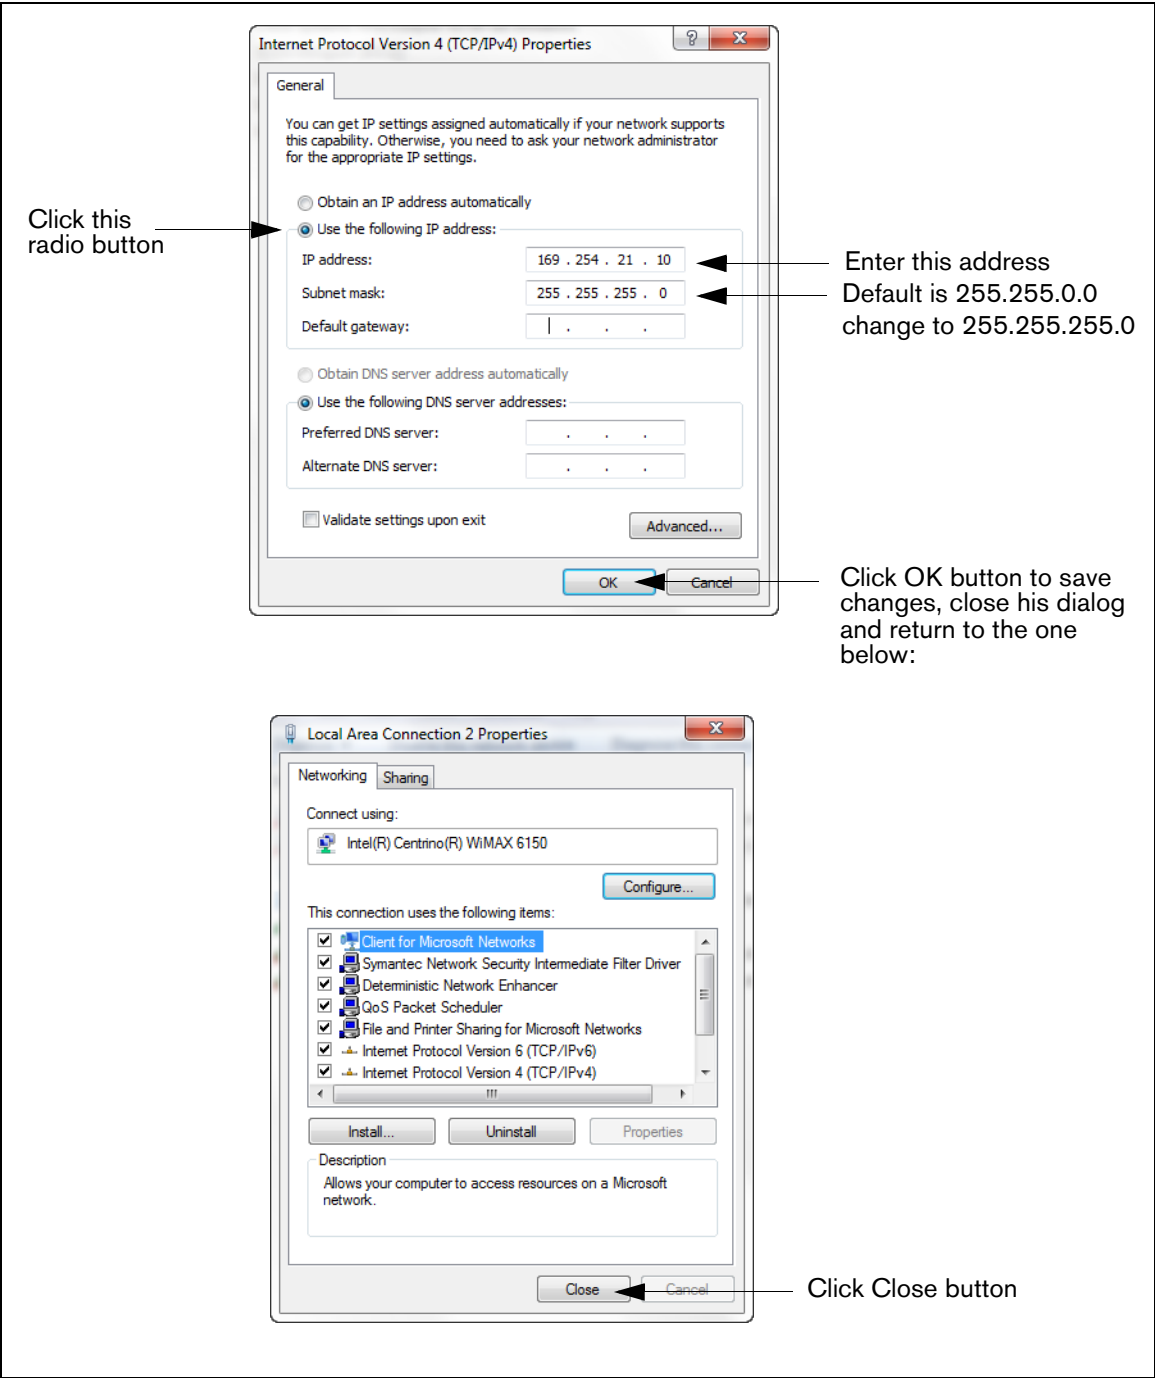

Figure 8. Internet Protocol Version 4 (TCP/IPv4) Properties dialog box selections
5. When the Internet Protocol Version 4 (TCP/IPv4) Properties dialog box opens make the selections shown in Figure 8.